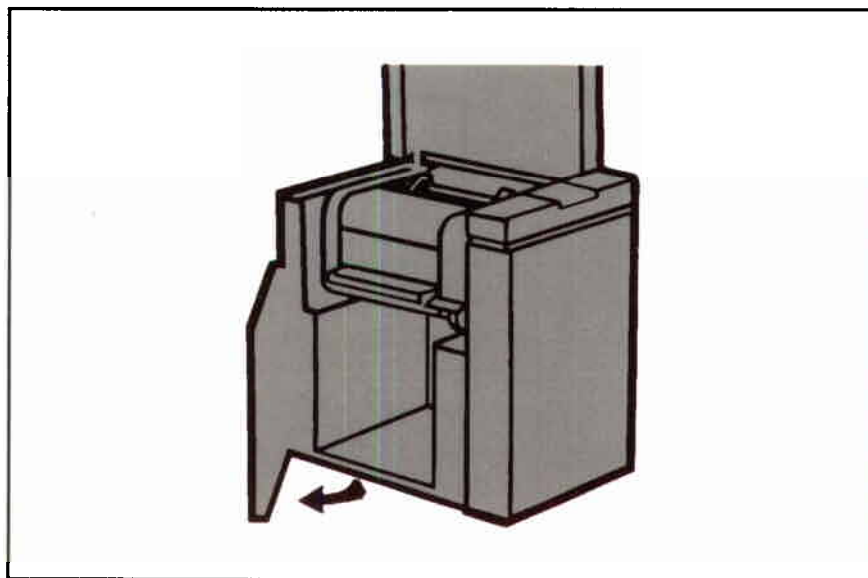

Figure 3-13. Opening the Printer
On the back panel of the printer, flip the power switch to the “ON” (1) position. The printer must be “ON” to perform set-up functions. Raise the printer’s top cover and open the cabinet’s front door (Figure 3-13).